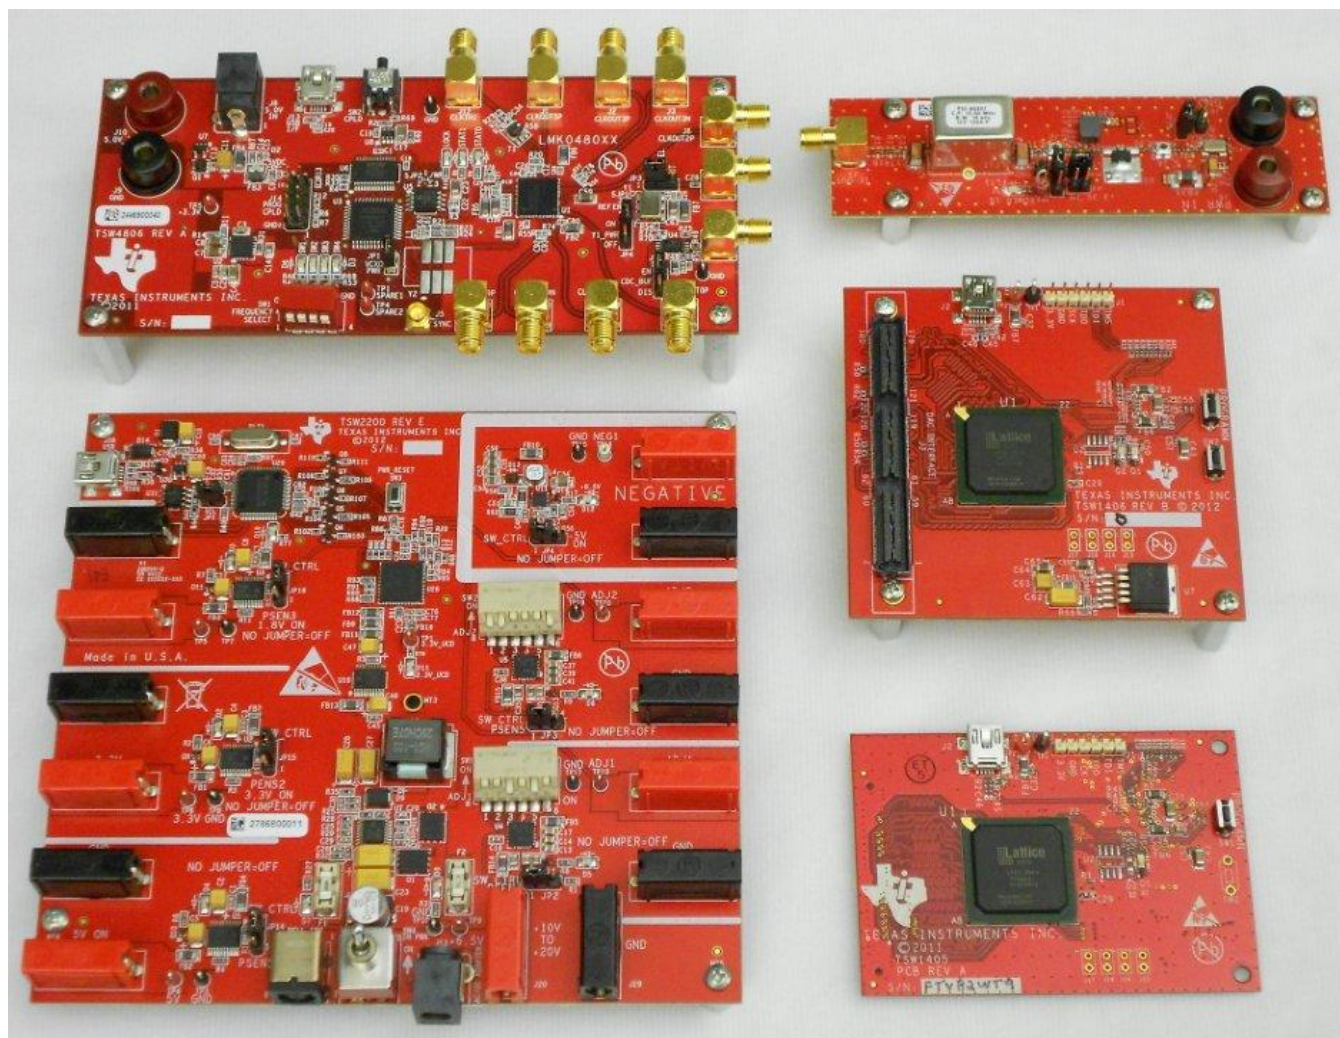

Figure 1. EVMs Included in the HSDC-SEK-10 EVM
This is the User's Guide for the HSDC-SEK-10. The kit includes five released Texas Instruments (TI) Evaluation Modules (EVM): TSW4806, TSW1405, TSW1406, TSW2110, and a TSW2200. Together, these five EVMs provide a low-cost solution for evaluating new and existing High Speed TI ADC and DAC EVMs. The five EVMs are shown in Figure 1.